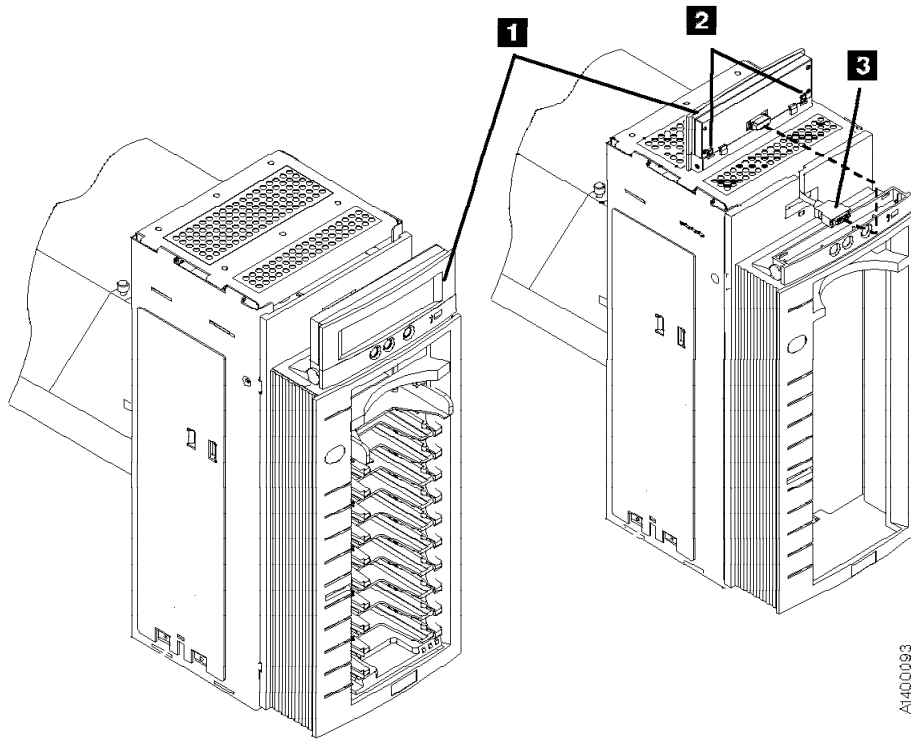

Figure 283. Operator/CE Panel, Model B11/E11
2. See Figure 283. Press the two buttons **2** on the rear of the panel **1**.